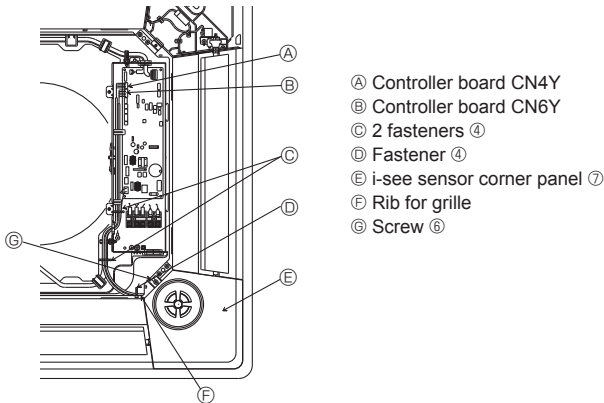

Fig. 6-10
- ① Water piping of the main unit
- ② Drain piping of the main unit
- ③ Initial position of the corner panel (logo attached)
- ④ Initial position of the levers on the intake grille
- ⑤ i-see sensor (PLP-6BAE panel)
6.6. Installation of i-see sensor corner panel (Fig. 6-10)